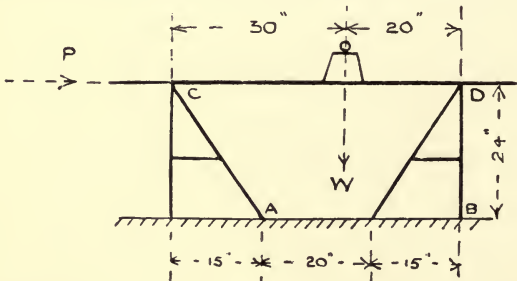

Fig. 1.
1. Fig. 1 represents a table supported upon two trestles hinged to the table at  $C$  and  $D$ . Use the principle of work to determine the magnitude of the force  $P$  which will just cause the trestles to turn about the points  $A$  and  $B$ .